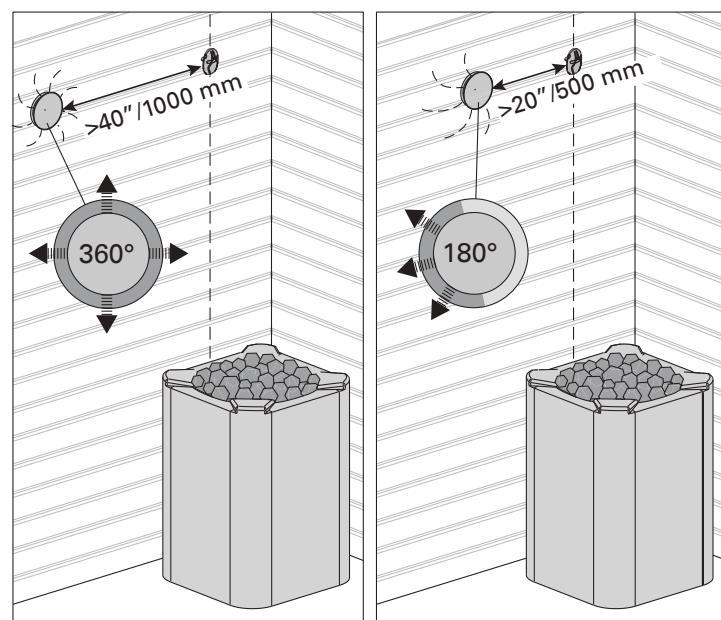

Figure 5. Sensor's minimum distance from an air vent
**Do not place the supply air vent so that the air flow cools the temperature sensor. Figure 5.**